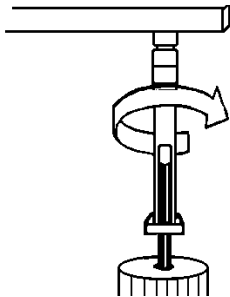

Figure 5-14. Installing Syringe
7. □ Holding the syringe with both hands, pull the syringe up to the Luer Lock™ on the Pipettor. Carefully twist the syringe barrel counter-clockwise (CCW), looking from the top, to engage the Luer Lock™ as shown in **Figure 5-14**.